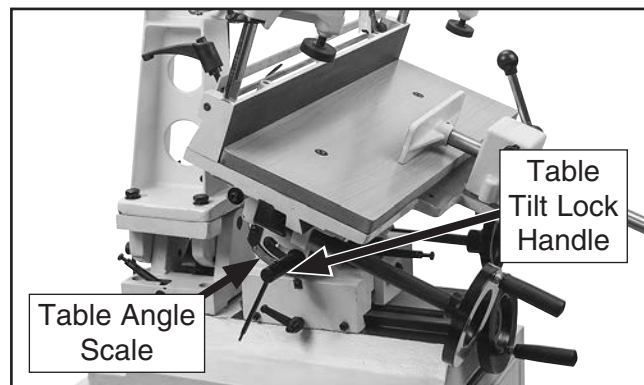

Figure 22. Table tilted forward.
2. Use table angle scale (see **Figure 22**) as a reference, and secure table position by tightening table tilt lock handle.